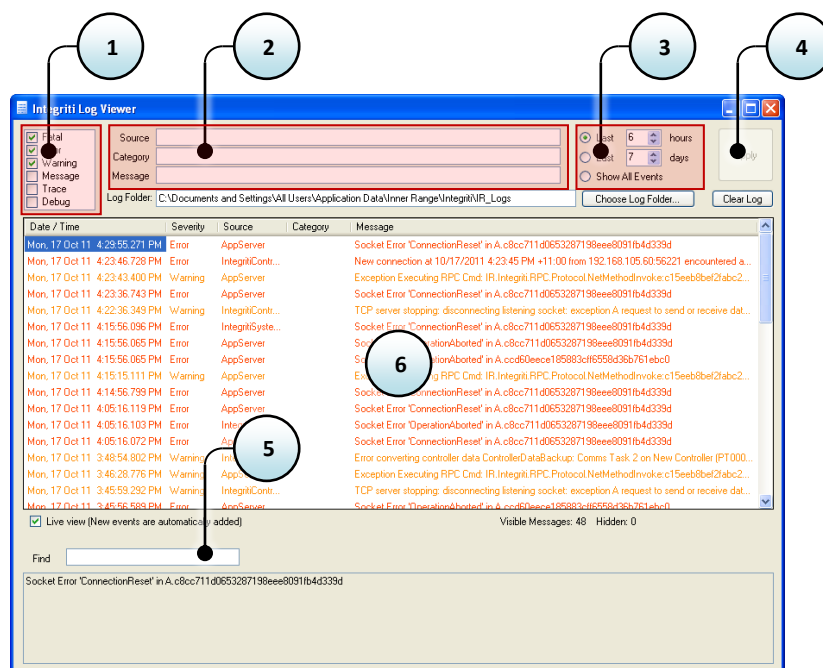

Figure 32
1. Ensure the Error checkbox is ticked. Un-tick the other checkboxes. (Figure 32)